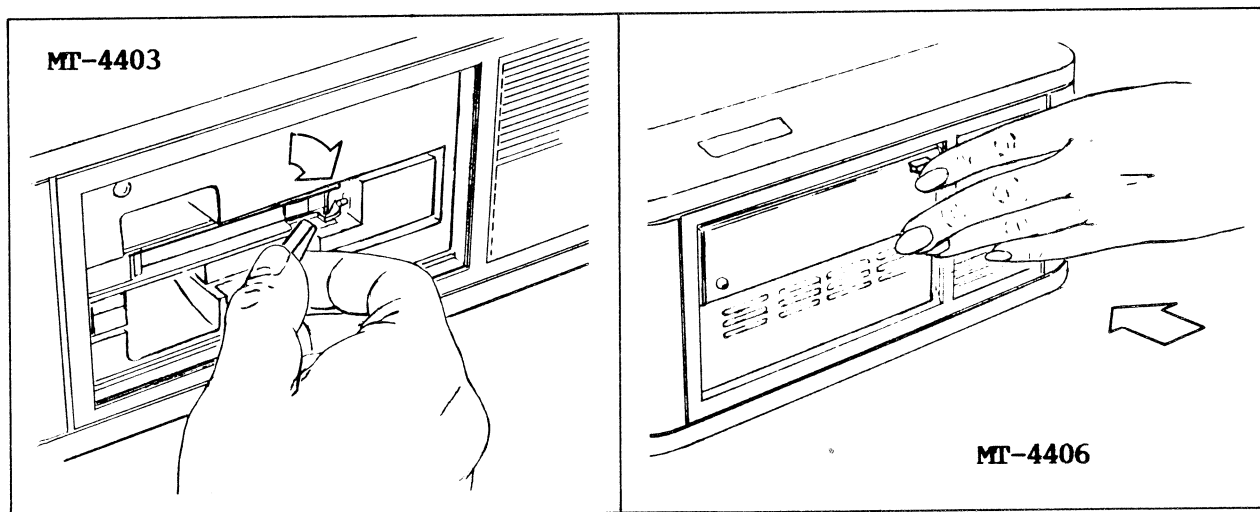

Figure 3-4. Opening the MTCS
1. MT-4403. Open the MT-4403 by moving the front lever down to its horizontal position (see figure 3-4).
MT-4406. Open the MT-4406 by pushing the front button to release the cartridge door (see figure 3-4).
1. MT-4403. Move the front lever down to its horizontal position (figure 3-4).
MT-4406. Push the front button to release the cartridge door (figure 3-4).